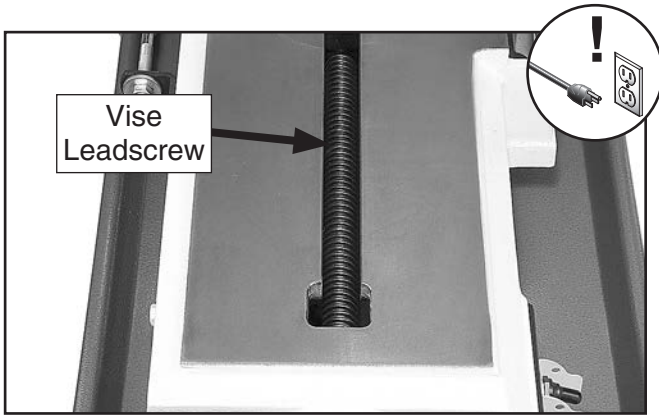

Figure 67. Location of vise leadscrew.
3. Use mineral spirits and a brush to clean existing lubricant and debris off of vise leadscrew shown in **Figure 67**. Allow leadscrew to dry.